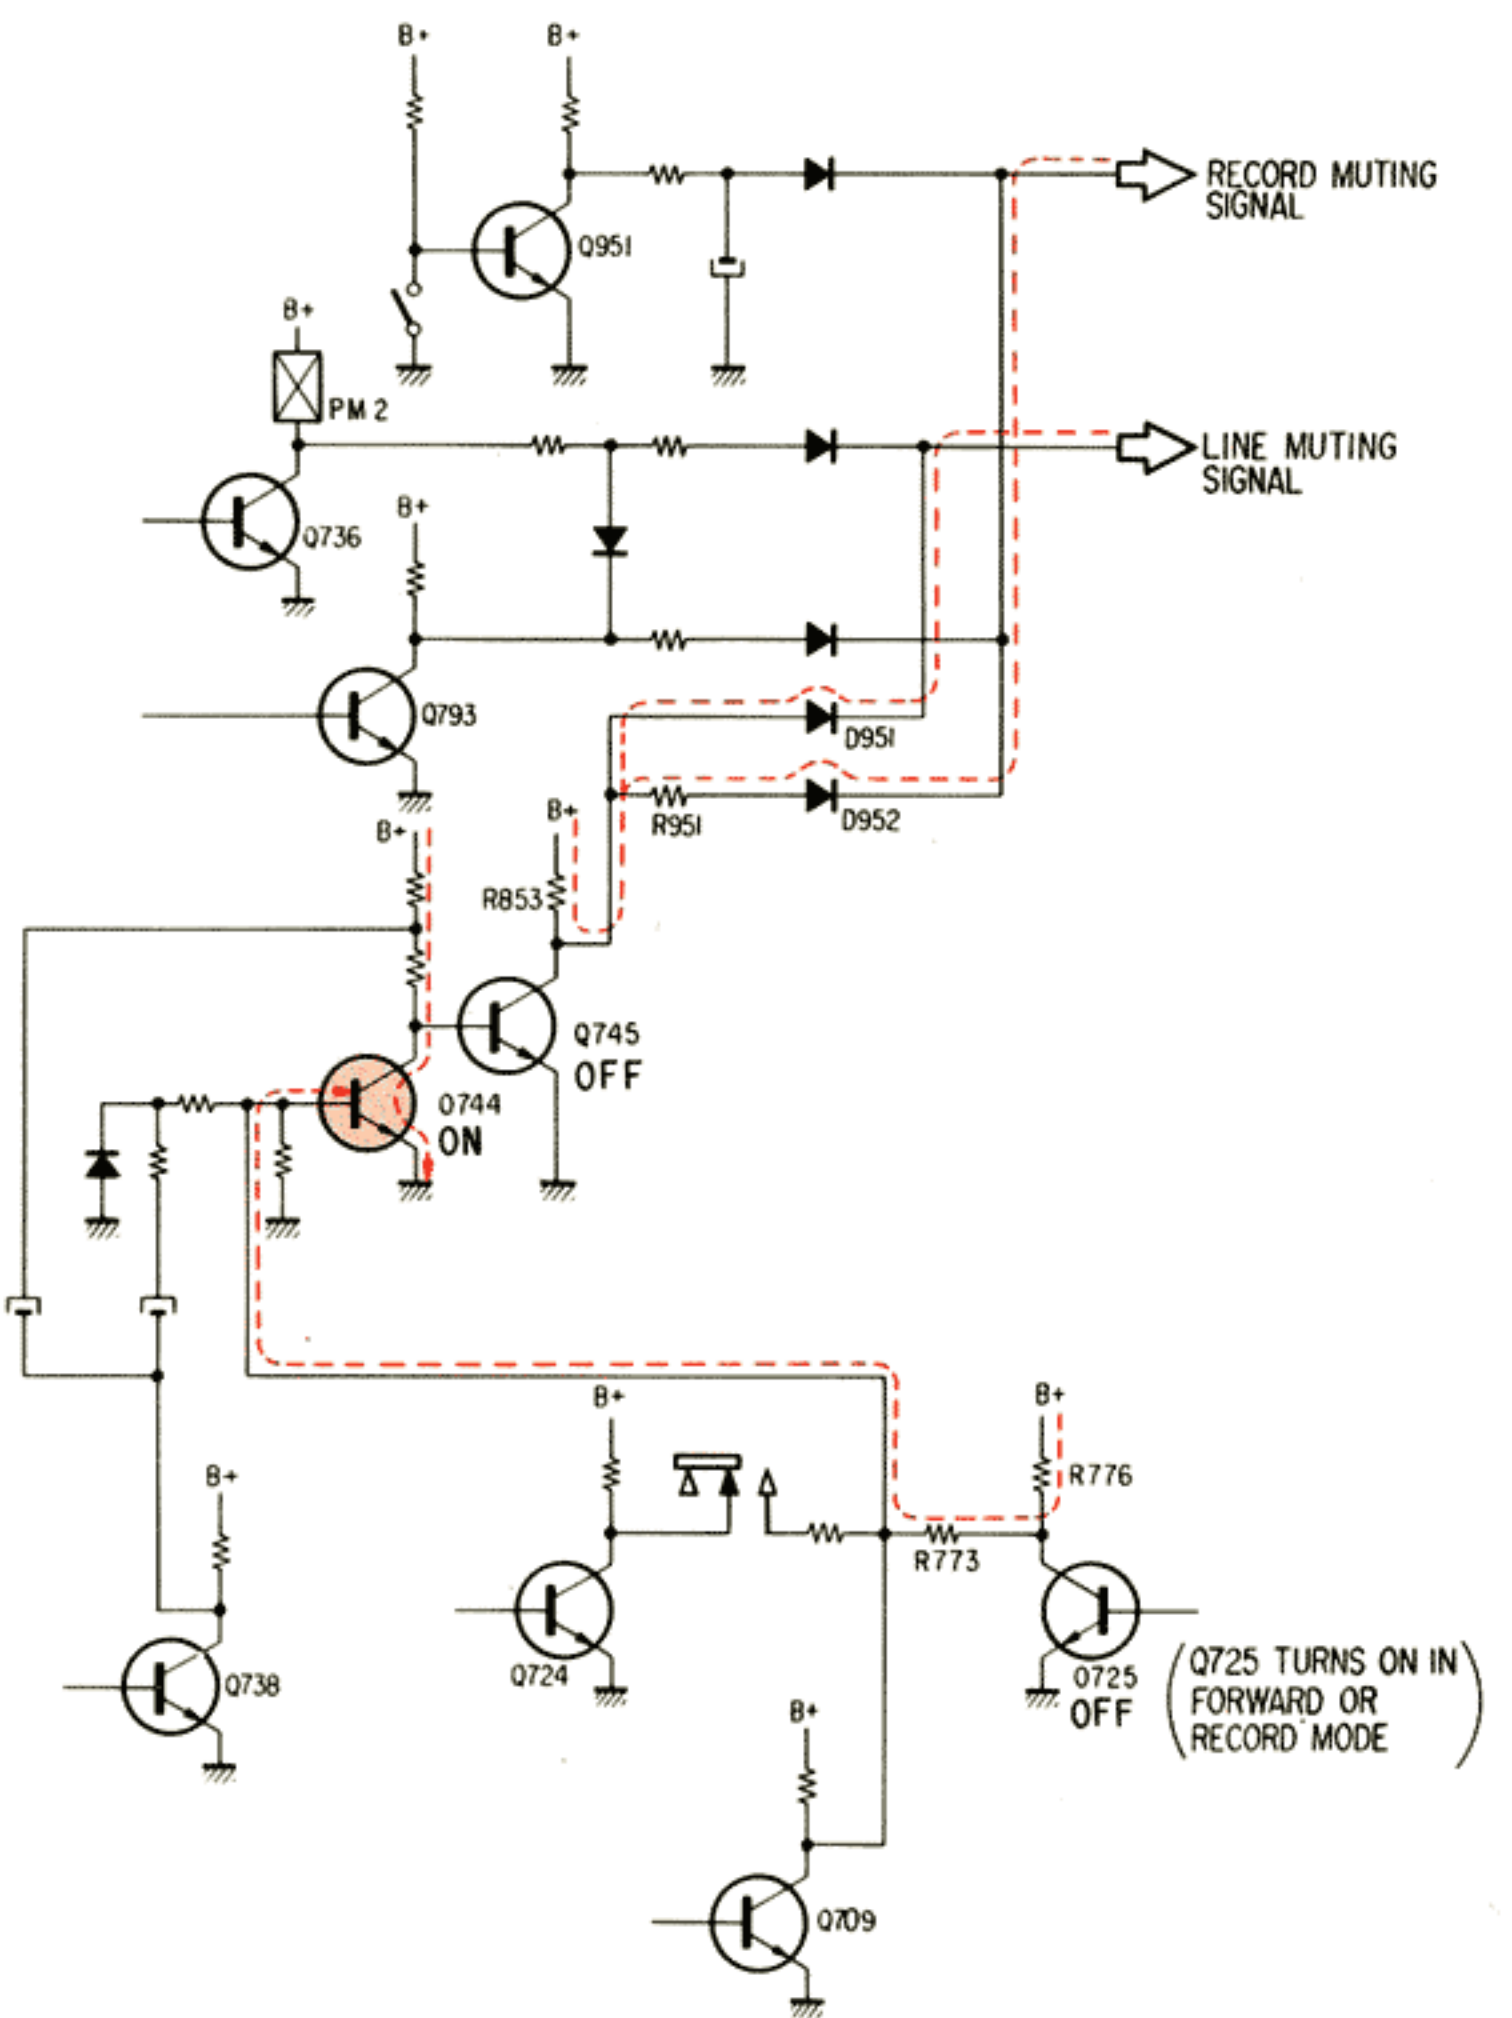

Fig. 1-12 Fast Forward or Rewind Mode
4. Fast forward or rewind mode (See Fig. 1-12)